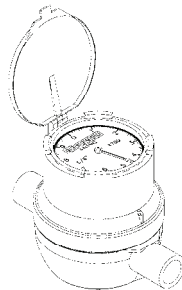

Figure 31. Flow Totalizer.
18. Make sure that water is flowing through the chemical injection/cleaning module. Observe the flow totalizer for operation. See Figure 31.